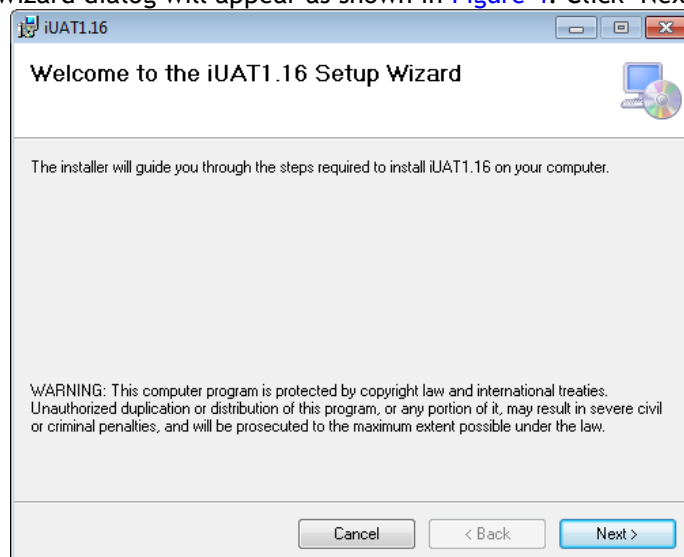

Figure 4: First page of the installation wizard
- The installation wizard dialog will appear as shown in Figure 4. Click "Next" to start installation.